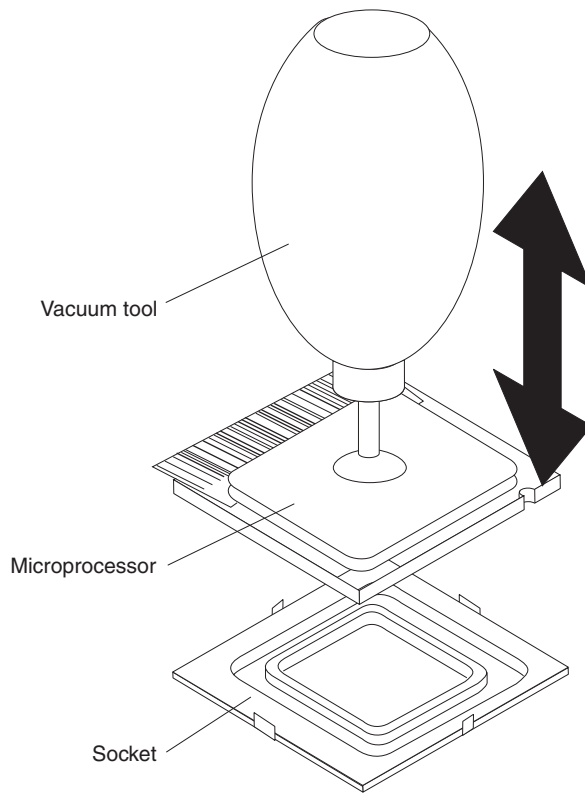

Figure 47. Removing the microprocessor
11. Remove the microprocessor using the vacuum tool and the following procedure (see Figure 47 on page 114).